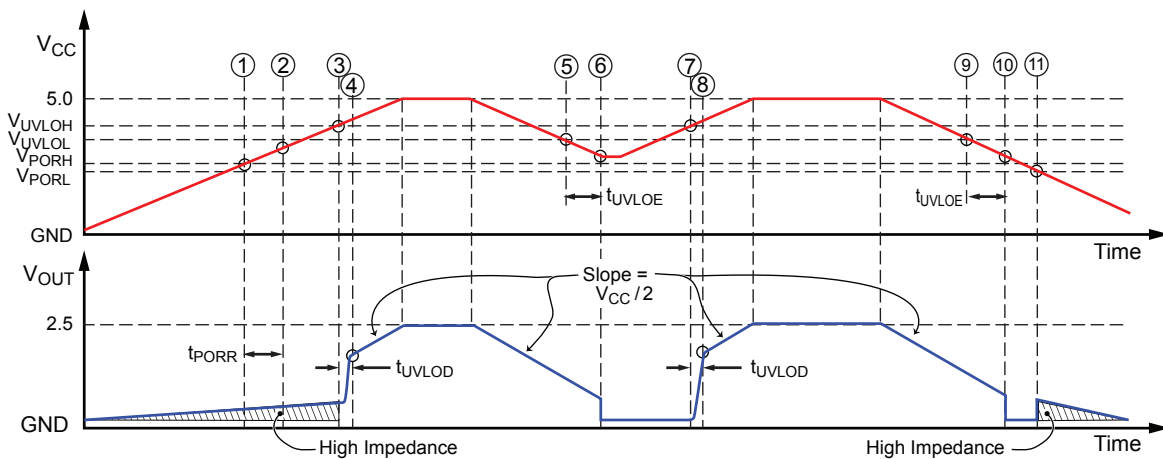
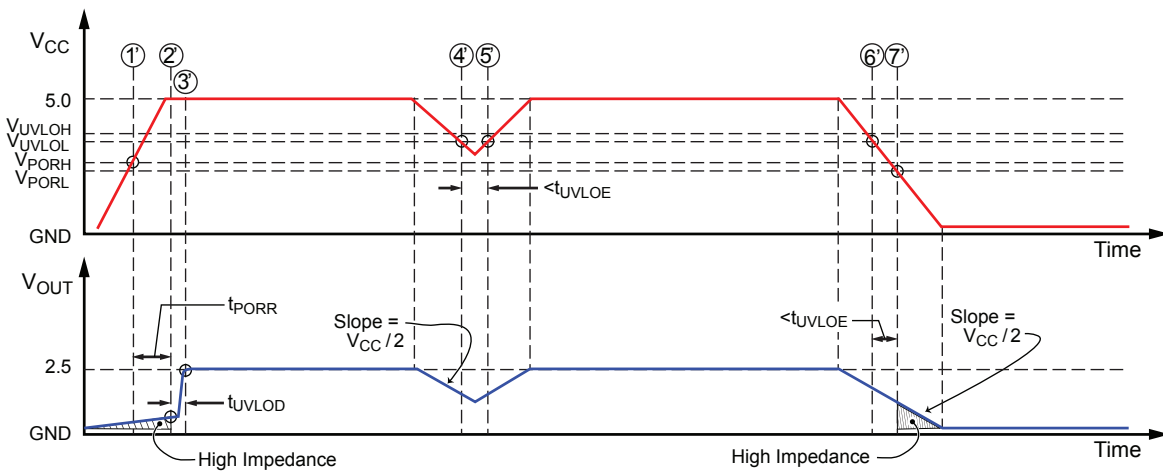

Figure 8: POR and UVLO Operation: Slow Rise Time Case
Figure 9: POR and UVLO Operation: Fast Rise Time Case
- Power-Up** At power-up, as  $V_{CC}$  ramps up, the output is in a high impedance state. When  $V_{CC}$  crosses  $V_{PORH}$  (location [1] in Figure 8 and [1'] in figure 9), the POR Release counter starts counting for  $t_{PORR}$ . At this point, if  $V_{CC}$  exceeds  $V_{UVLOH}$  [2'], the output will go to  $V_{CC}/2$  after  $t_{UVLOD}$  [3']. If  $V_{CC}$